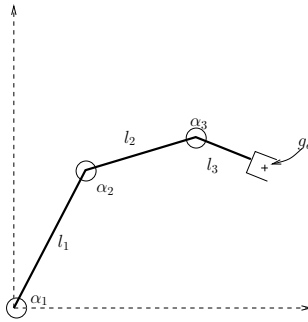

Figure 1: Planar 3R Manipulator.
**Problem 1.** (40 pts) Consider, as usual, the three-link rotational planar manipulator from the previous homeworks, c.f. Figure 1. We've worked out the forward and inverse kinematics for this little guy. Now, let's continue with the manipulator Jacobian(s).